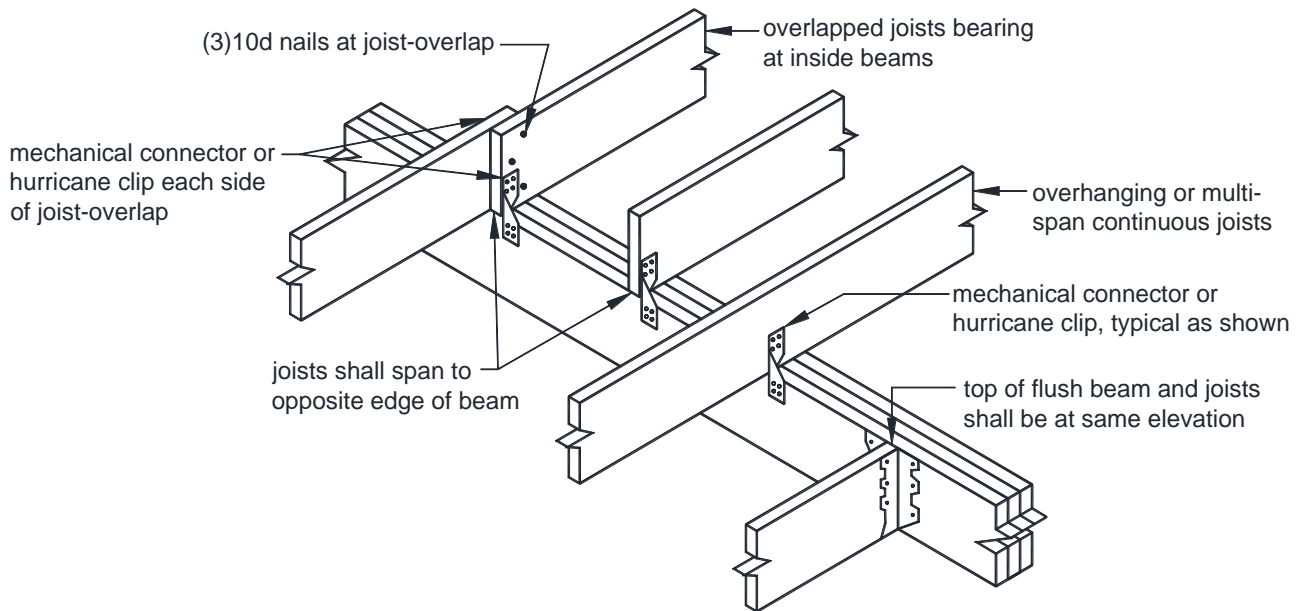

FIGURE 12: JOIST-TO-BEAM CONNECTION
- Each joist shall be attached to the beam in accordance with FIGURE 12.
- As shown in FIGURE 12, multi-span joists are permitted to span continuously over a dropped interior beam with one mechanical connector or overlap with a mechanical connector at each joist.